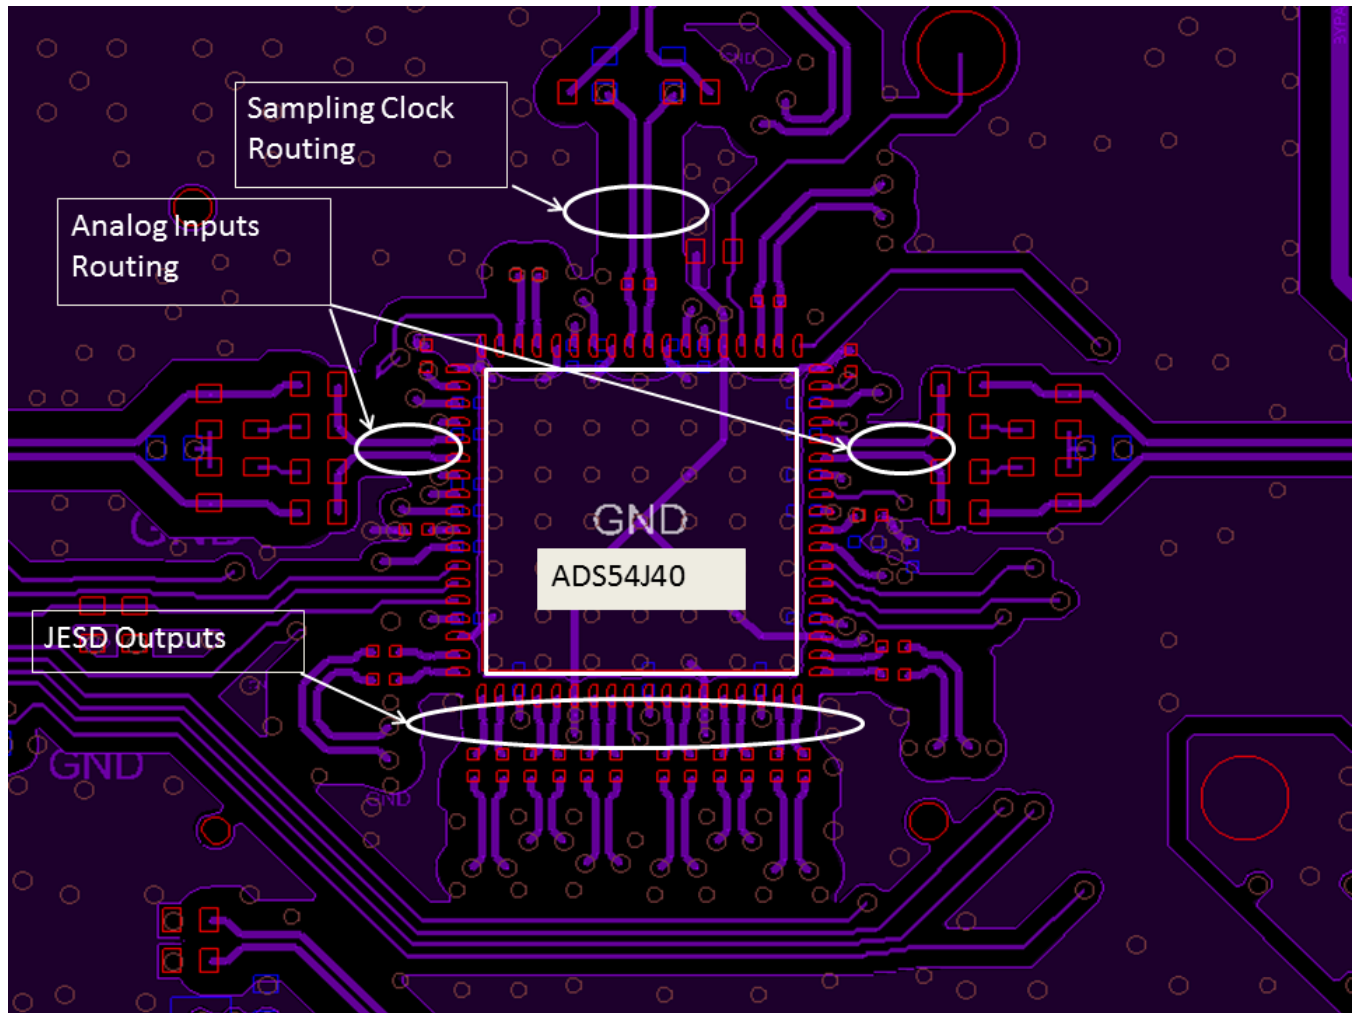

Figure 137. ADS54J40EVM Layout
The device evaluation module (EVM) layout can be used as a reference layout to obtain the best performance. A layout diagram of the EVM top layer is provided in Figure 137. The *ADS54J40EVM User's Guide*, SLAU652, provides a complete layout of the EVM. Some important points to remember during board layout are:
- Analog inputs are located on opposite sides of the device pinout to ensure minimum crosstalk on the package level. To minimize crosstalk onboard, the analog inputs must exit the pinout in opposite directions, as illustrated in the reference layout of Figure 137 as much as possible.
- In the device pinout, the sampling clock is located on a side perpendicular to the analog inputs in order to minimize coupling between them. This configuration is also maintained on the reference layout of Figure 137 as much as possible.